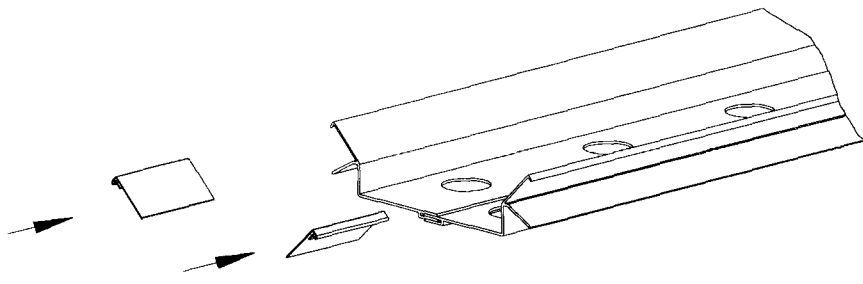
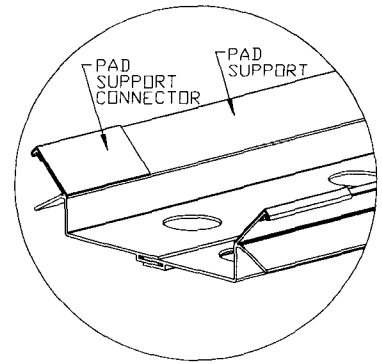

Figure 10
Figure 11
- I) Locate the pad support connectors and slip the pad support connectors on all pad supports except the first pair as shown in Figure 10 and Figure 11.